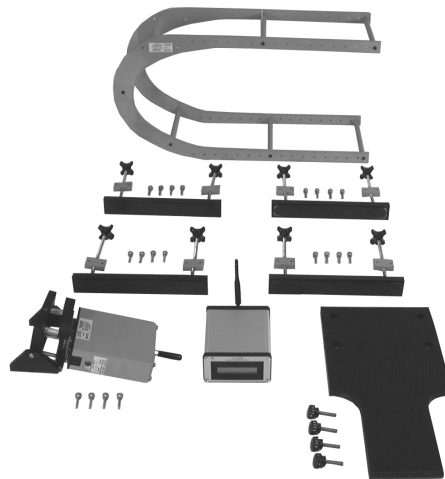

Figure 3-4. CA-320C Wing Mount Components
- 3.5 Remove the CA-320C Wing Mount components from their case. See Figure 3-4 below: